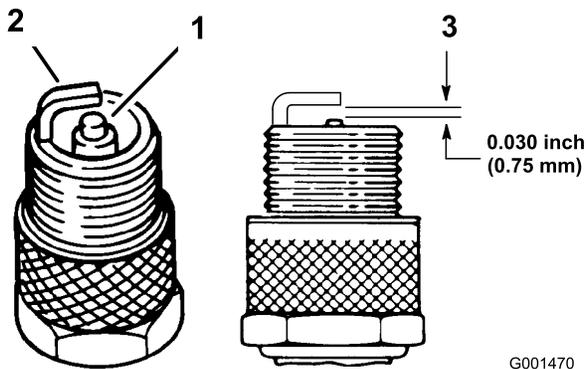

Figure 33
- Look at the center of the spark plugs (Figure 33). If you see light brown or gray on the insulator, the engine is operating properly. A black coating on the insulator usually means that the air cleaner is dirty.
- Check the gap between the center and side electrodes (Figure 33). Bend the side electrode (Figure 33) if the gap is not correct.
- Connect the wires to the spark plugs (Figure 33).